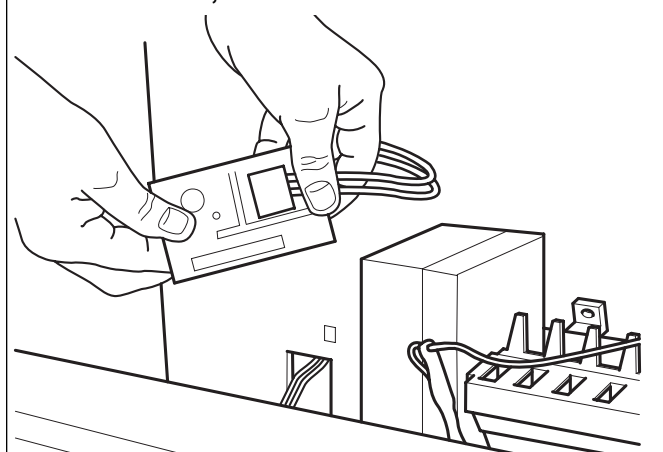

Figure 2-15. Thermistor Location
The input temperature range in all these freezer models is from -5°F to +5°F, and is uniform throughout the cabinet. In other words, there is one zone and one thermistor for that zone. The thermistor is located behind the upper drawer in the reed switch assembly (Figure 2-15).
2. The temperature in the freezer drawer zone is uniform between both drawers, therefore only one thermistor is used. The thermistor is located behind the upper drawer in the reed switch assembly (Figure 2-15). To replace the thermistor, the complete reed switch assembly must be replaced. Simply remove the mounting screw, tilt the top of the reed switch assembly forward and disconnect the electrical connector.